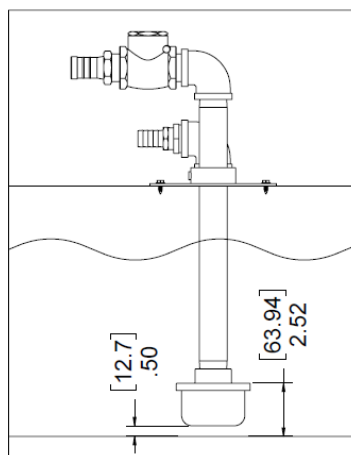

Figure 4.1.2
9. Move the pipe up or down so that the measurement from the bottom of the suction screen to the bottom of the standpipe bracket is the value that was calculated in Step 7. *See Figure 4.1.2.*